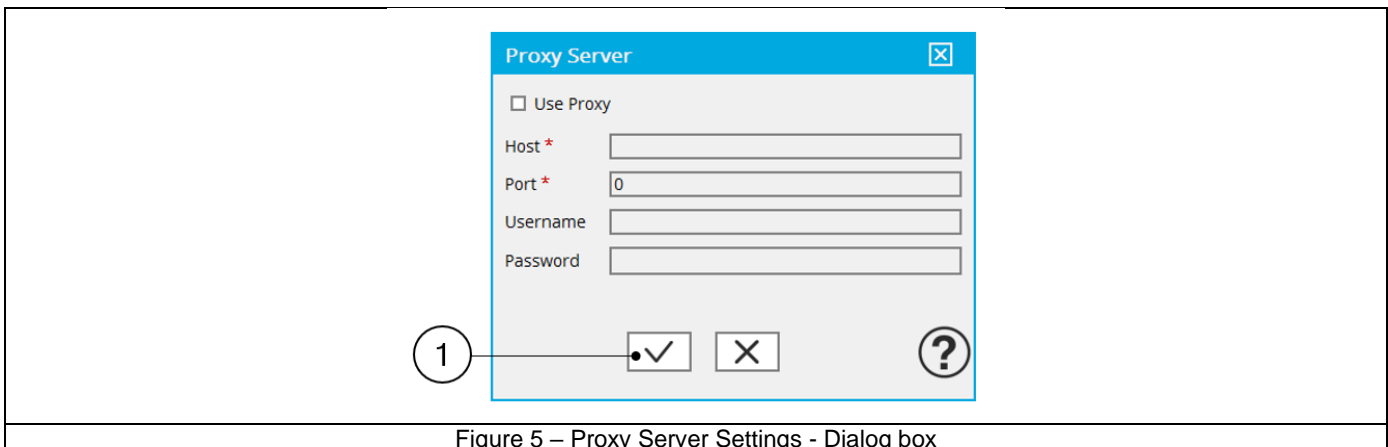

Figure 5 – Proxy Server Settings - Dialog box
- 6) Click on the apply button (Mark 1 - Figure 5 – Proxy Server Settings - Dialog box). The status will change to Activated when the license is validated, or you will receive an error message if unsuccessful.